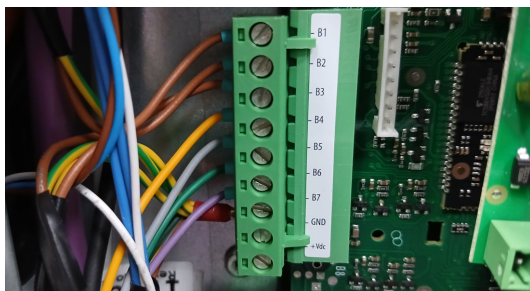

Fig. 75 : Unplug B1-B7/GND/+Vdc Connector
19. Unplug 9 pin connector on the left, B1 - B7/GND/+Vdc, from PCBA. See Fig. 75.